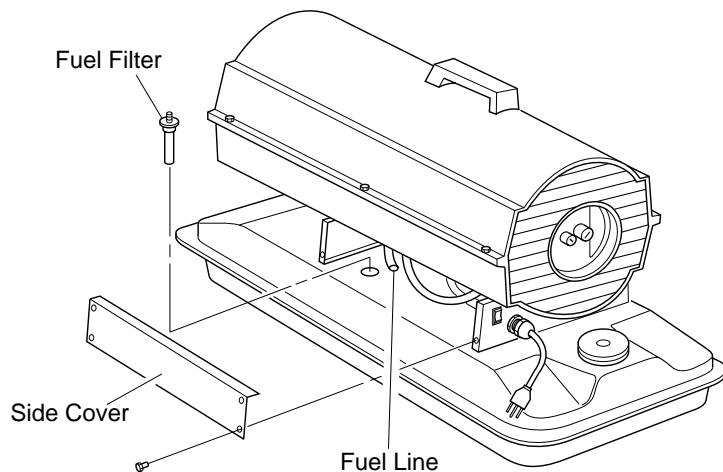

Figure 9 - Fuel Filter Removal, REMSA35H and REMSA70H Models
3. Remove 4 side cover screws with a 5/16" nut driver. Remove side cover (see Figure 9 or 10, page 8).
12. Replace side cover (see Figure 9 or 10, page 8).